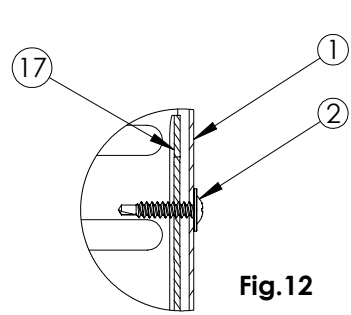

Fig.12
Ensure drilling screws (2) pass through both frame (1) & linking brackets (17) as shown in Fig. 12.